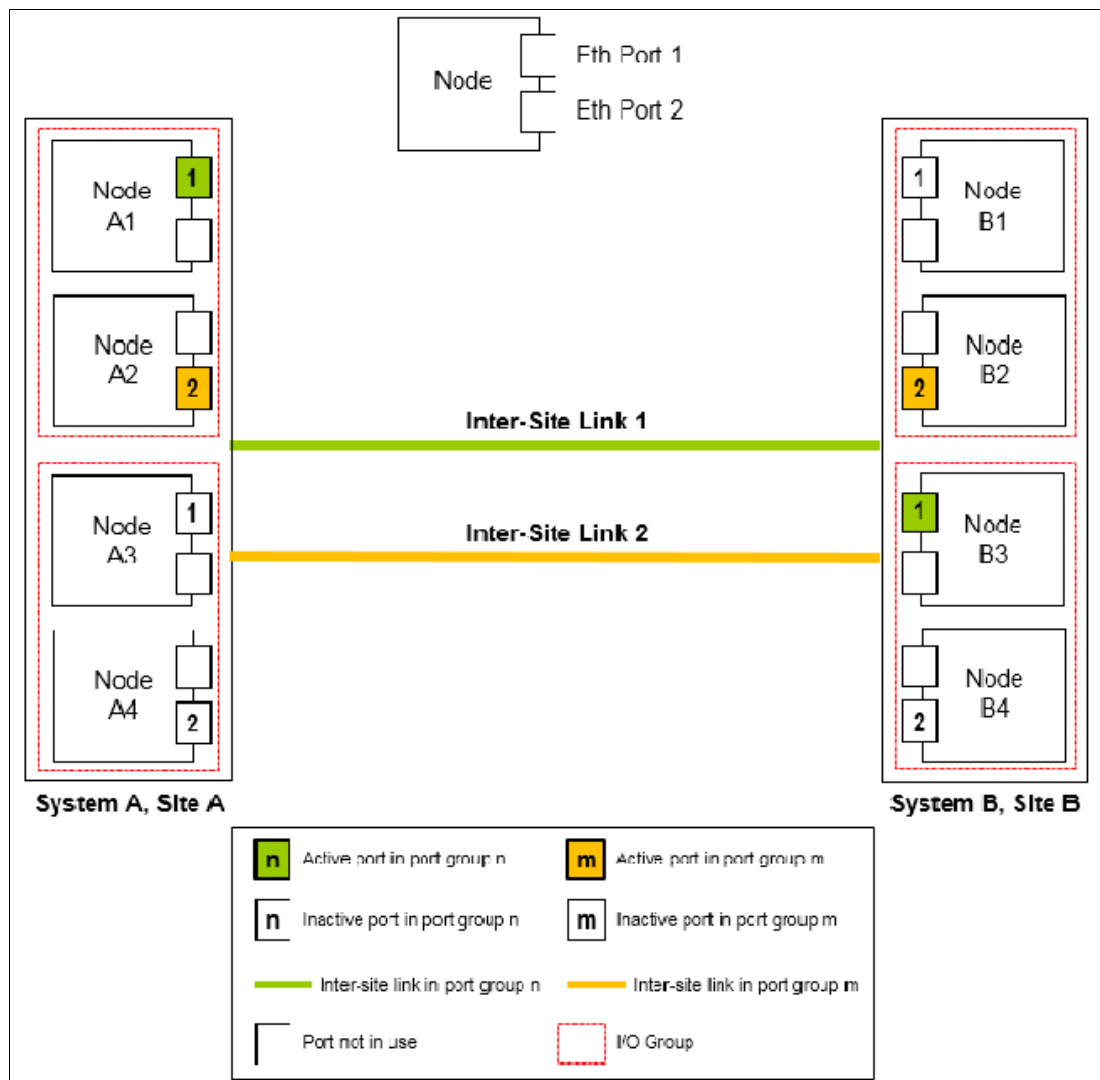

Figure 10-103 Multinode systems with dual inter-site links between the two systems
- Two 4-node systems in IP partnership with dual inter-site links, as shown in Figure 10-103 (configuration 6).
As shown in Figure 10-103, two 4-node systems are used: